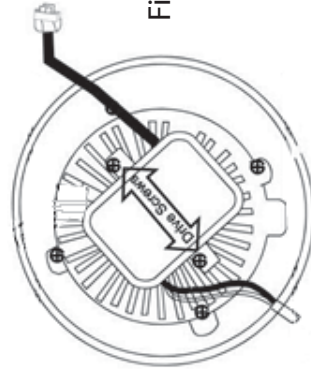

Figure 4
4. Loosen the plastic set screw which is securing the black wire on the back of the cast heat sink. (FIG.4)
5. Remove the two DRIVER SCREWS and separate the old LED driver from the cast heat sink. (FIG 4)
6. Separate the LED driver connector from the retrofit trim connector, pull black wire through the cast heat sink. (FIG. 4)